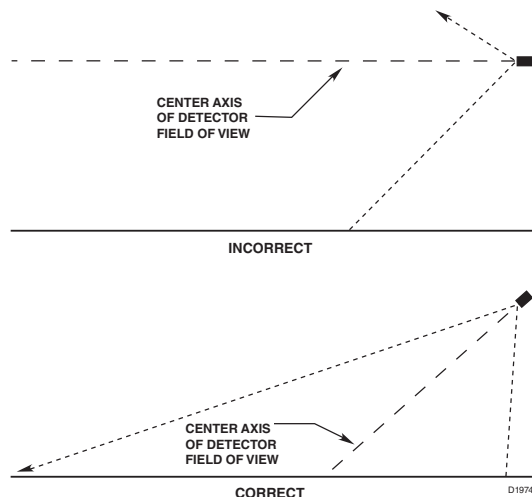

Figure 1—Detector Orientation Relative to Horizon
- The detector should be aimed downward at least 10 to 20 degrees to allow lens openings to drain (see Figure 1). **The detector should be positioned so that its FOV does not cover areas outside the area that requires flame detection monitoring.** This will minimize the possibility of false alarms caused by activities outside the area requiring protection.
(See Figure 1 for Correct Detector Orientation.)